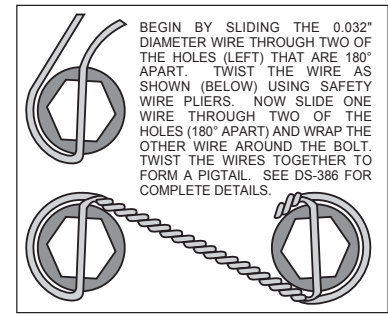

Figure 3. Safety Wire Diagram
- The caliper mount bracket assembly (1) should be installed first with clean, dry threads on the mounting bolts. Install the bracket by sliding bolt (4) through washer (2) from the back side through the lower caliper mounting ear on the spindle. Slide bolt (3) through washer (2) from a 90° degree angle on the upper portion of the steering arm. The bracket must tighten squarely against the outboard side of the caliper mount bosses on the spindle body. Inspect for interference from casting irregularities, machining ridges, burrs, etc. Later, after the caliper, pad, and rotor alignment has been checked, and any necessary shims have been put in place, the threads of the mounting bolts should be coated with red *Loctite*® 271 and torqued to 65 ft-lbs.
- Install wheel studs (5) into the hub (6). Torque to 77 ft-lb. **NOTE:** There are two (2) five lug patterns in the hub (5 x 4.50 and 5 x 4.75). Make sure of the correct hole pattern for the correct wheel application before installing studs into hub.
- Pack the large inner bearing cone (7) with high temperature disc brake bearing grease (available from your local auto parts store) and install into the backside of the hub (6).
- Install the grease seal (8) by pressing into the backside of the hub (6).
- Pack the small outer bearing cone (14) with high temperature disc brake bearing grease and install into front of hub (6). Slide the hub assembly (5, 6, 7, 8 and 14) onto the spindle. Secure using spindle washer (15), stock adjusting nut and nut locking device. Adjust bearing using a 12" wrench to tighten the adjusting nut while turning the rotor. When the rotor binds slightly, all the bearing parts are seated properly. Back of the nut 1/6 to 1/4 of a turn or enough to allow 0.001 to 0.007 end play. Lock the nut with a new cotter pin. **WARNING:** Failure to back off the adjusting nut may cause the bearing to run hot and be damaged, which could cause the wheel to lock or come off during operation, creating a risk of serious bodily harm.
- Install the o-ring (16) on the dust cap (17), and screw dust cap assembly onto the hub (6). Friction created by the o-ring (16) on the dust cap (17) keeps it from unscrewing.
- With the larger I.D. side of the rotor (9) facing away from the hat (10), bolt rotor (9) to hat(10) through the backside of the rotor using washers (11) and bolts (12). Using an alternating sequence, apply red *Loctite*® 271 to the threads and torque bolts to 155 in-lb. For an added measure of security, the bolts may be safety wired using standard 0.032 inch diameter stainless steel safety wire as shown in Figure 3. Please refer to Wilwood's data sheet DS-386 (available at www.wilwood.com/Pdf/DataSheets/ds386.pdf) for complete safety wire installation instructions.
- Slide the rotor/hat assembly over the studs (5) in the hub (6) taking care to align the small countersunk holes in the hat (10) with the small threaded holes in the hub (6). Install three flat head socket head screws (13) through the small holes in the hat (10) and torque to 85 in-lb.